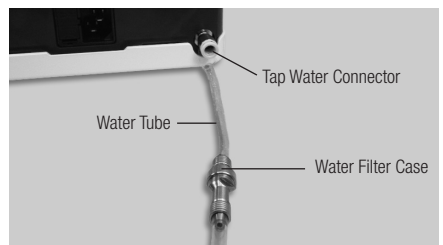

Fig.5
- 2) Connect the filter side of the Water Tube deep into the Control Unit Tap Water Connector (Fig. 5).